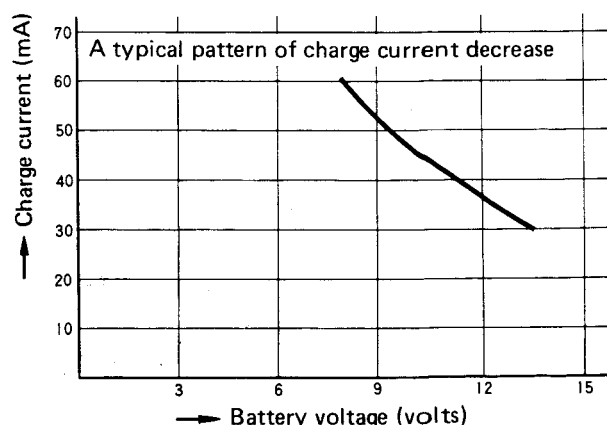

Fig. 8
3. Adjust VRt3 and/or modify the position of the pick-up lead, located near Lt22, until the meter reads figure 8. (The same applies to the telescopic antenna.)
Note: Charging current vs battery voltage curve for nickel-cadmium cells is shown in Fig. 8. The charging current may deviate from this curve depending on the particular transceiver or cells used.